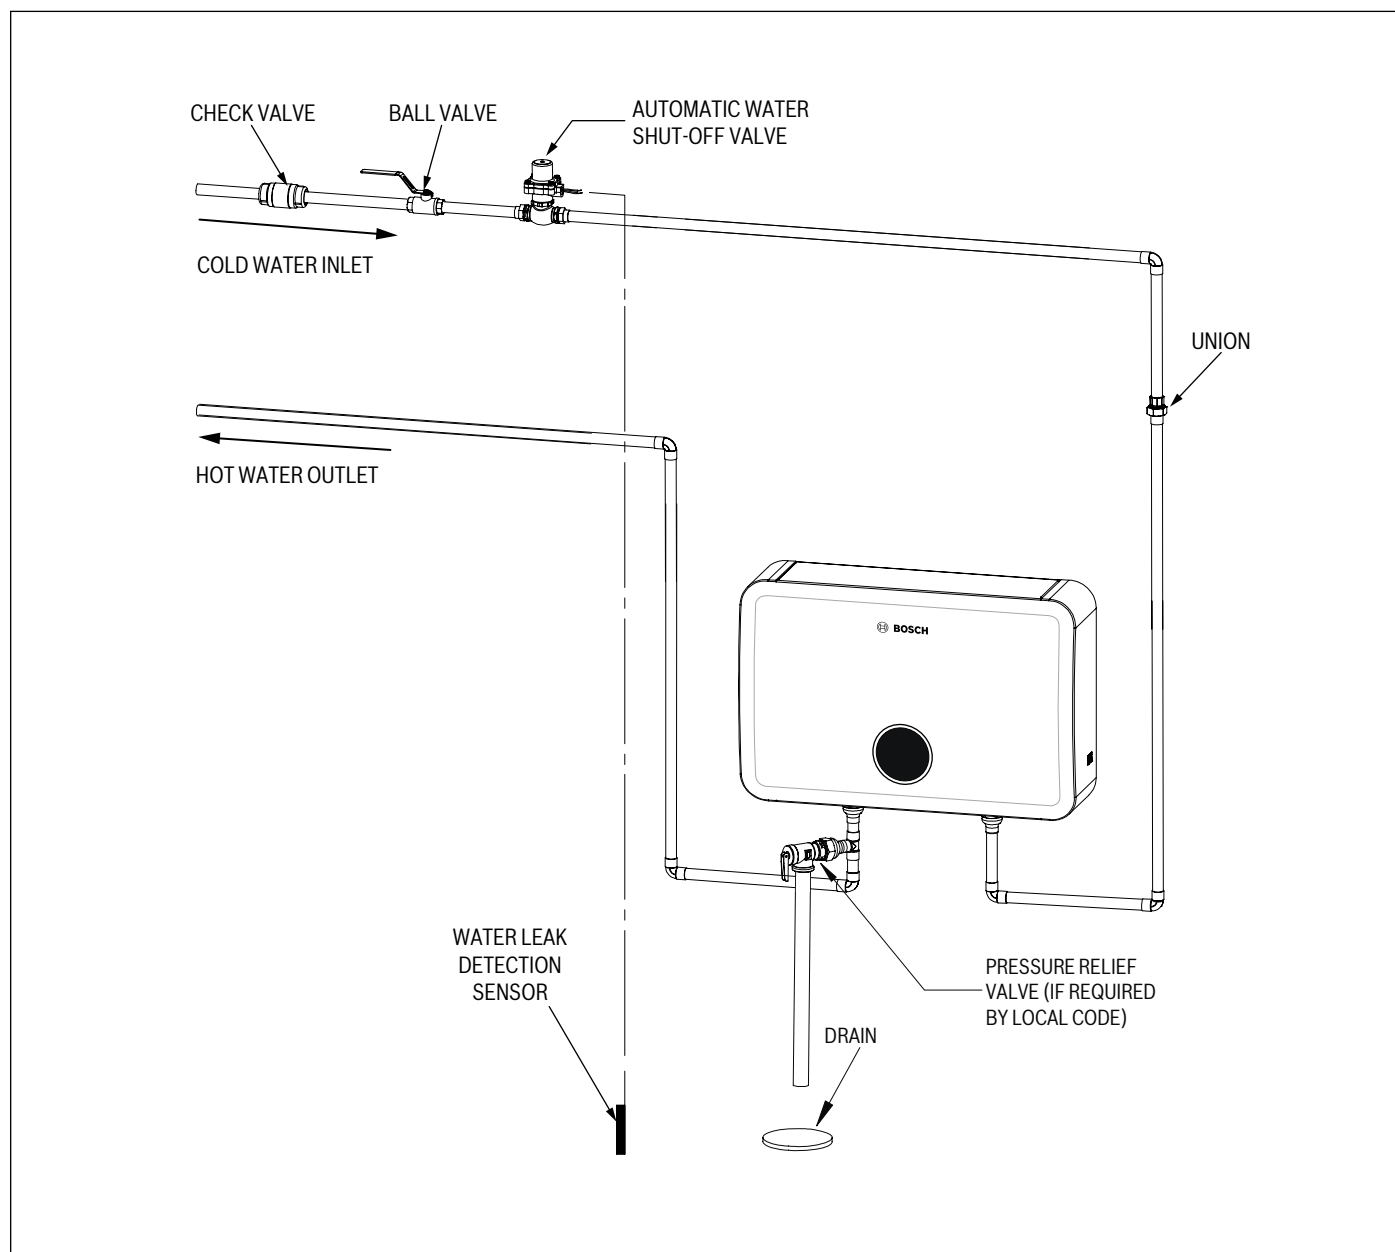

Figure 10
1. Install unions on the hot and cold water connections to easily disconnect the water heater for servicing. See Figure 10.